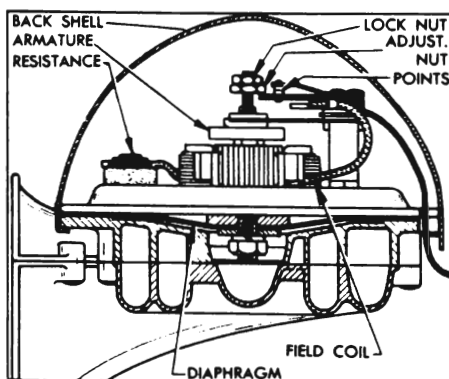

Figure 10-70—Horn Contact Point Adjustment
4. Adjust to specified current draw, if necessary, by loosening lock nut and turning contact point adjusting nut clockwise to decrease or counterclockwise to increase current draw. See figure 10-70. This adjustment is very sensitive, and adjusting nut should not be moved more